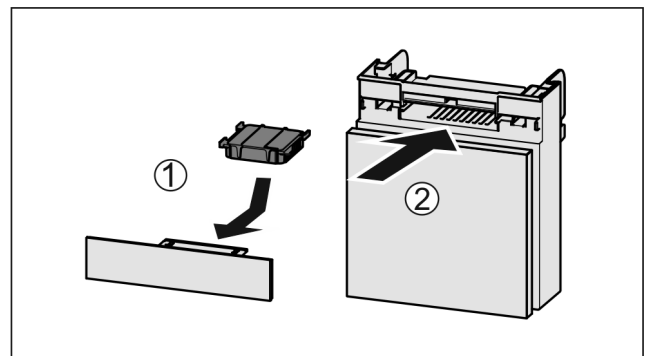

Fig. 39
- ▶ Insert the carbon filter as shown in the diagram Fig. 39 (1).
- ▶ Push the compartment in *Fig. 39 (2)*.